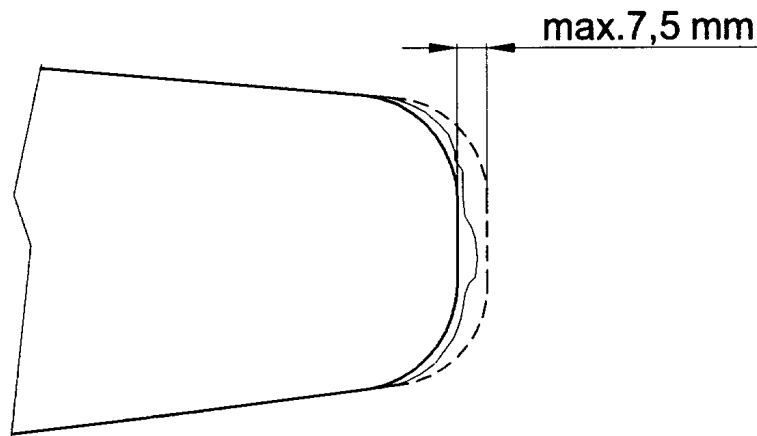

Fig.504 The scope of the permitted repair of the damaged top of the blade
(4) Repair of damage of the blade tip (see Fig.504).